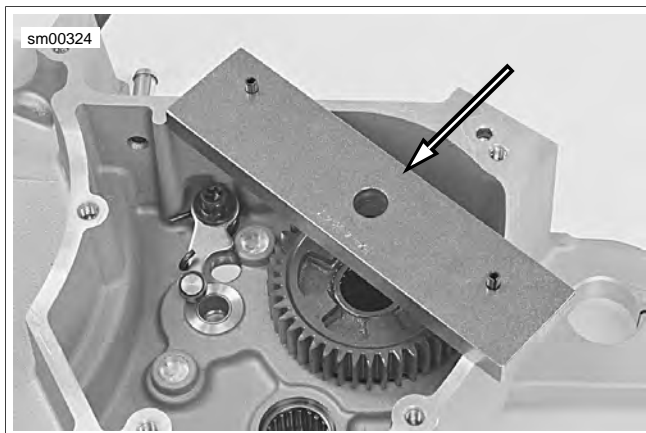

Figure 5-68. Bearing Remover Cross Plate Mounting
- Obtain MAIN DRIVE GEAR REMOVER AND INSTALLER SET. See Figure 5-68. Place CROSS PLATE (Part No. B-45847) on right crankcase as shown. Position cross plate